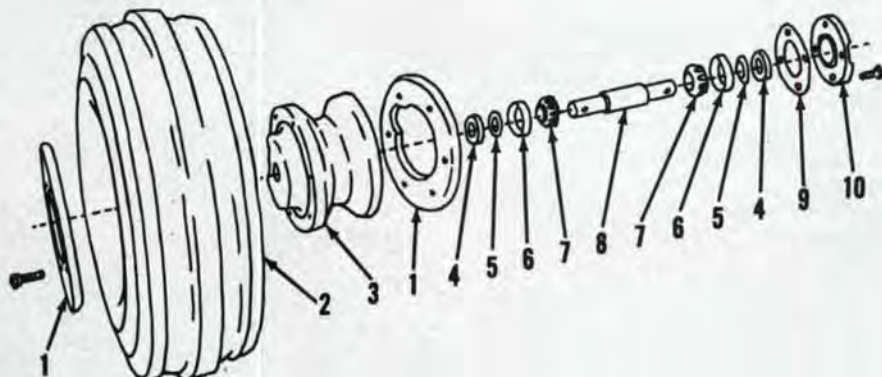

Fig. 2—Exploded view of single front wheel assembly.
To renew bearings and/or seals, first remove wheel assembly; then unbolt and remove bearing retainer (10—Fig. 2), seal (4), seal retainer (5) and shims (9). Drive or press on opposite end to remove axle (8), bearing cones (7) and bearing cup from retainer side of hub. Drive the remaining seal and bearing cup out of hub. Remove bearing cones from spindle.
Soak new felt seals in oil prior to installing seals and seal retainers. Drive bearing cup into hub until cup is firmly seated. Drive bearing cones tightly against shoulders on axle. Pack bearings with No. 2 wheel bearing grease. Install axle and bearing cup in against cone. When installing bearing retainer, vary number of shims (9—Fig. 2) to give bearings a free-rolling fit with no end play.
and removing tire retaining rings (1—Fig. 2).